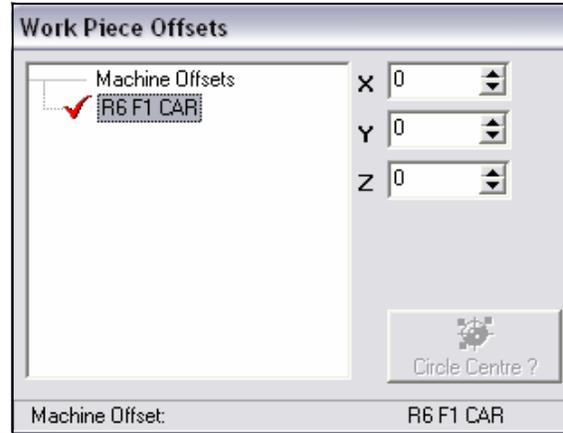

Figure 5 - Offset Window
1) In VR Milling, click on the Offset button at the bottom of the screen. A window similar to the one in Figure 5 should appear.